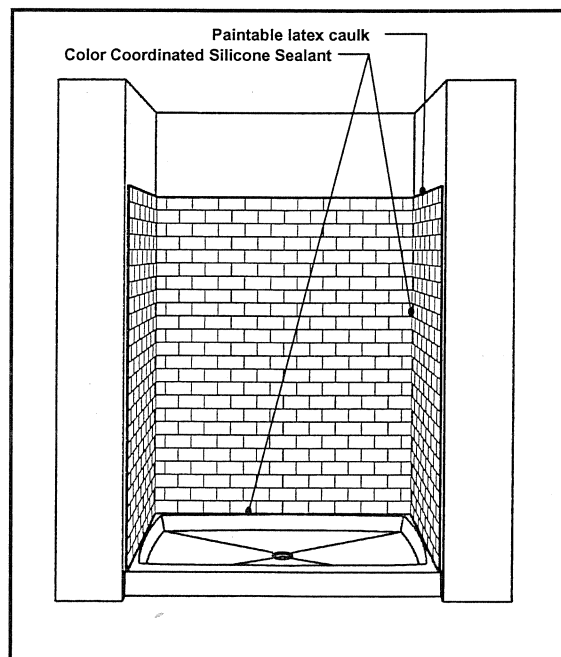

Fig. 9
- Step 12. Remove the bracing and cut holes in the panels for any applicable accessories. Refer to Accessory Installation Instructions for installation of soap or shampoo holders. Clean all joints with solvent. Make sure the joint is clean as excess adhesive or other foreign material can prevent a good bond or cause the silicone sealant to discolor. Apply a bead of silicone to one of the joints and then tool the joint within 5 minutes with the supplied "Perfect Bead" tool. Do not touch the silicone seal after 5 minutes. Please refer to instructions packed with the silicone adhesive and sealant for in depth detail on this step. The excess silicone that is squeezed out by the tool can be cleaned up most easily by waiting until the silicone has "set" (about 30 minutes), then scrape the excess "firm" silicone from the panels with a plastic spoon (the plastic spoon will not scratch the surface of the **TERE-STONE®** panels or base, do not use metal). The joint between the **TERE-STONE®** panel outside edge and the wall surface may be sealed with a paintable acrylic latex caulk (not supplied). See Fig. 9.